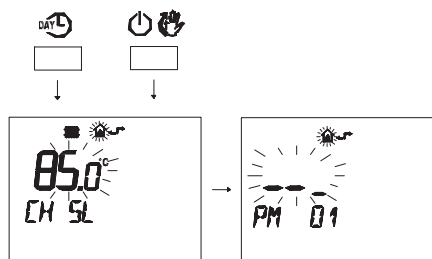

Figure 5.39
- Press buttons  and  together to enter transparent programming (Figure 5.39).